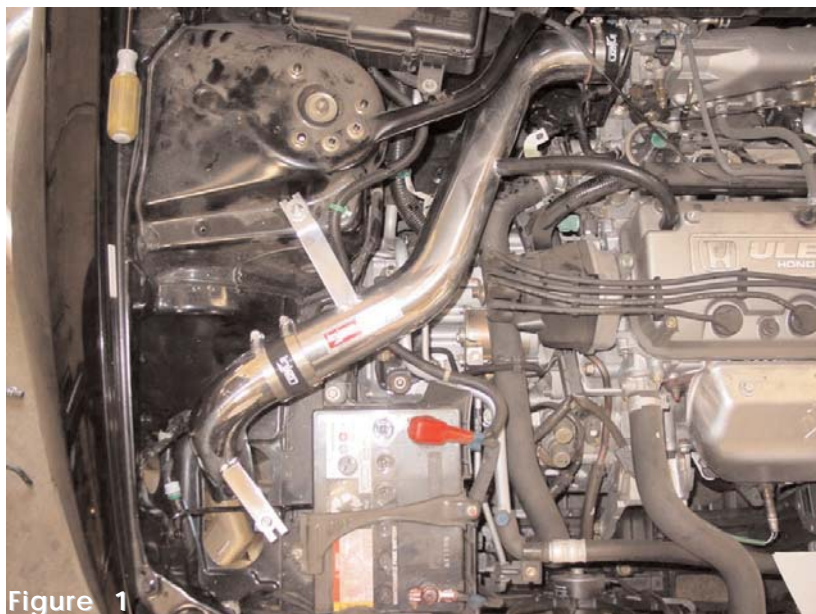

Figure 1
- 11 Align the entire cold air intake for best fit. Make sure that there is no rubbing anywhere along the length of the intake. Once proper clearance has been made continue to tighten all nuts, bolts and clamps. (See figure 1)